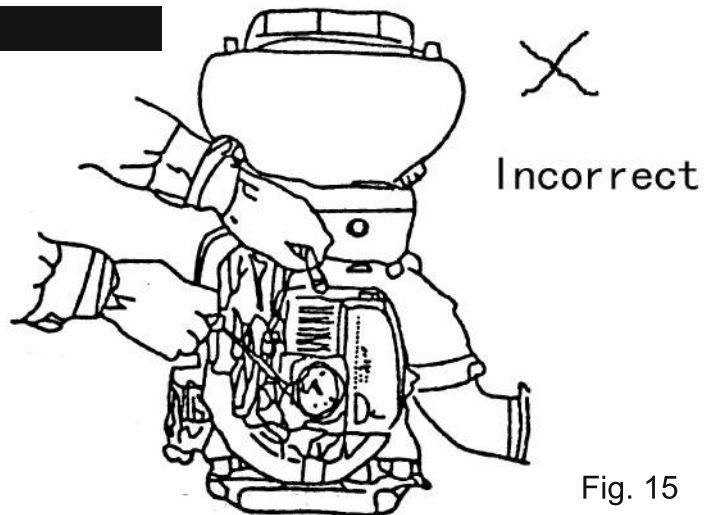

Fig. 15
1. Engine starts difficultly or can not start. Check if the sparking plug has sparked-over. Screw down the sparking plug; put the side pole to touch the cylinder. Full the starter and watch between the poles of sparking plug whether there are sparks. Pull the starter carefully; do not touch the metal part of sparking plug for prevention of getting an electric shock as shown in Fig.15.